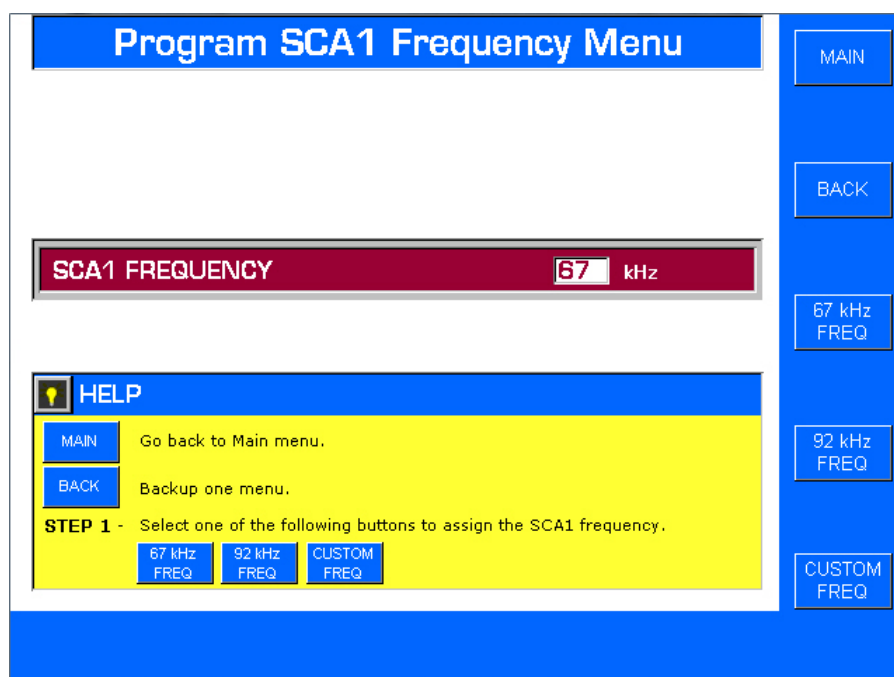

Figure 3-18. INTERNAL PROGRAM SCA1 FREQUENCY MENU
- A. Depress SCA1 FREQ. The Internal SCA1 Frequency Menu will appear (refer to Figure 3-18).